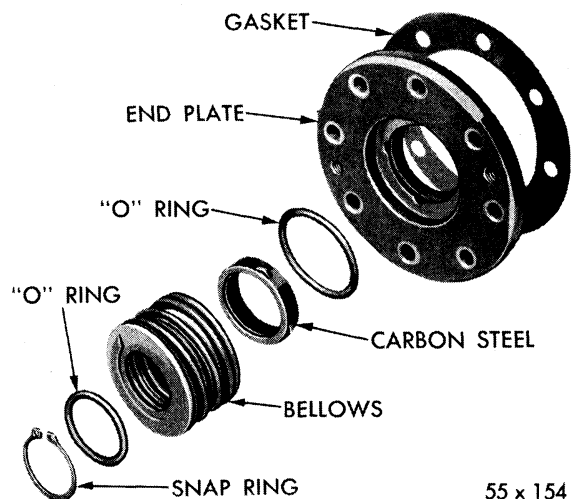

Fig. 10—Compressor Shaft Seal (After Type)
d. Removing Metal Bellows Seal (Fig. 10)